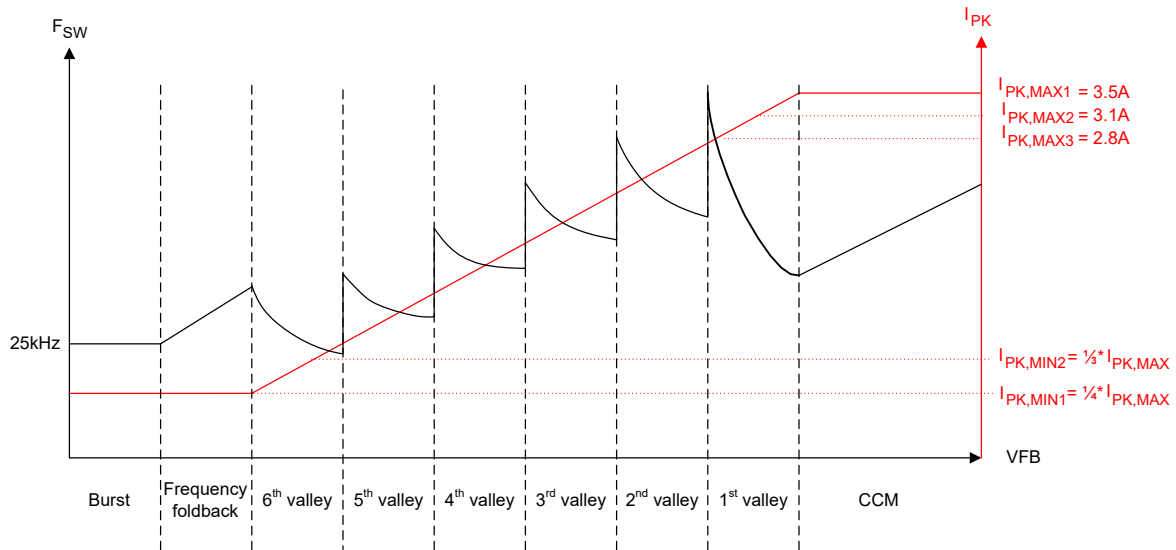
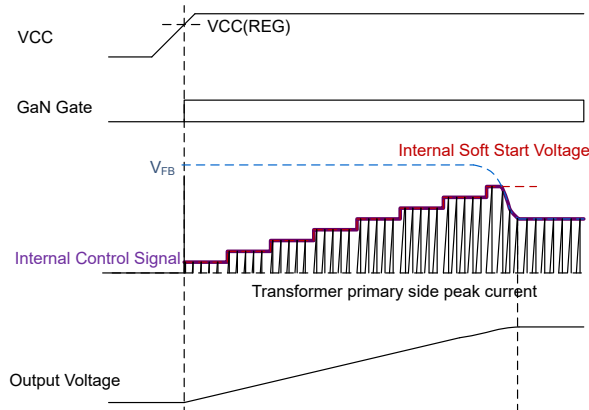

Figure 7-3. UCG2882x Control Law
Figure 7-8. Soft Start Sequence
Hence, in UCG2882x, in every switching cycle, the primary GaN HEMT turns off after reaching the peak current threshold and turns on next at a target valley in magnetizing ring during discontinuous mode (DCM) operation. The instantaneous primary peak current and target valley is determined by the feedback (FB) pin voltage as per the control law of Figure 7-3. Connect the FB pin to the optocoupler collector. The negative feedback loop sets FB pin voltage to the required value to support a certain V_{OUT} and P_{OUT} on the output. The device can operate in one of the four modes of operation: burst, frequency foldback, valley switching or continuous conduction mode, as described later.
In the control law shown in Figure 7-3, the UCG2882x offers flexibility to select a max peak current $I_{PK,MAX}$ to optimize for the switching frequency at rated load and transformer size. For each $I_{PK,MAX}$ setting, a scaling ratio of 1/3rd or 1/4th is available for the minimum peak current $I_{PK,MIN}$. This $I_{PK,MIN}$ value determines the switching frequency and losses in light load conditions when the flyback converter is operating in frequency foldback or burst modes. For all values of $I_{PK,MAX}$ and $I_{PK,MIN}$, the slope of control law peak current vs feedback voltage remains the same, as per Equation 1. Table 7-6 shows the threshold voltages for transition between different modes and between valleys for different peak current settings of Table 7-3.
The UCG2882x is designed to operate with soft switching and primary FET turn-on at a valley to reduce switching losses. The converter operates in valley switching except during peak load transients during which control can transition to CCM mode (if enabled using CDX pin). During valley switching mode, the target valley and peak current threshold are governed by the control law of Figure 7-3 and Equation 1:
As shown in Figure 7-3, once the boundary of 1st valley QR operation is reached with increasing output power, the control clamps I_{PK} to the maximum selected value $I_{PK,MAX}$, and begins to reduce the secondary conduction time T_{OFF} in CCM mode. This reduction in T_{OFF} is proportional to increase in FB pin voltage, until 50% of the QR mode off-time to reach maximum 1.5 \times the QR mode output power delivery capability. Use a primary magnetizing inductance L_M large enough to not hit the frequency clamp during CCM mode and avoid any subharmonic oscillations which can increase output voltage ripple, depending on application requirements. For long duration output power transients, the converter returns to 1st valley QR mode after expiry of the 10ms CCM timer and continues to deliver the largest possible output power at the transition point of QR and CCM modes, while operating in QR mode. The device offers flexibility to enable or disable CCM mode operation with a resistor from the CDX pin to GND, as per values in Table 7-5.
When turned on, a flyback converter starts with 0V output voltage. The low voltage can cause the feedback voltage FB to clamp the maximum value and trigger overload protections. To prevent the clamping from happening, the UCG2882x starts in soft start mode. As Figure 7-8 shows, during this time, an internal FB voltage ramp increases in eight steps from 0V to its maximum value in 4ms. The maximum value of internal FB ramp at FB pin voltage is equivalent to 80% of the $I_{PK,MAX}$ setting and changes for different resistor settings on the IPK pin. During soft start, the smaller of internal ramp voltage and actual FB pin voltage is used to determine the device operating point in the control law of Figure 7-3. Once the internal FB ramp voltage reaches the maximum value at the end of 4ms is when control is transferred to FB pin voltage for output regulation. Soft start sequence is executed every time at start up or when recovering from fault (auto-retry or latch) and brown-out conditions. The minimum frequency clamp is changed to 10kHz only during soft start (which is otherwise at 25kHz during normal operation). The 10kHz minimum frequency clamp helps at start-up when valleys are missing and the control law forces turn-on of primary GaN HEMT every 100 μ s from the last turn-on edge (if valleys are missing), to charge the output capacitor.